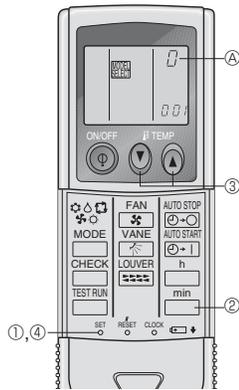

Fig. 6-9
3) IR wireless remote controller pair number setting operation (Fig. 6-9)
- ① Press the SET button with something sharp at the end.
- ② Press the \square_{min} button twice continuously. Pair No. "0" blinks.
- ③ Press the temp \uparrow/\downarrow button to set the pair number you want to set.
- ④ Press the SET button with something sharp at the end. Set pair number is lighted for three seconds then turned off.